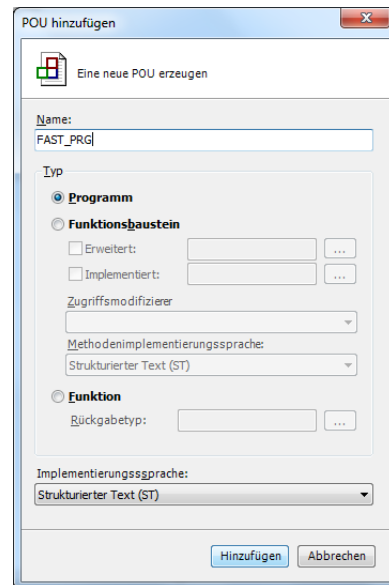

Figure 67: PLC and Task configuration
- Create the POUs „FAST_PRG“ as shown in Figure 67.